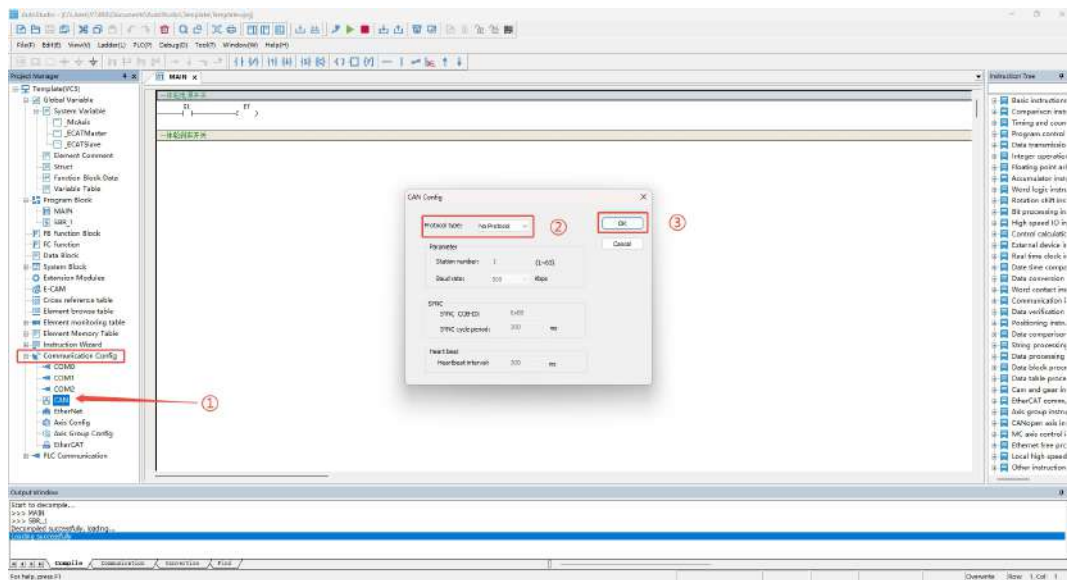

Figure 3-10 Configure CAN
Step 2: In the Project Manager on the left, locate the Communication Configuration tab. Double-click “CAN” to open the CAN configuration window. Set Protocol Type to “Master,” enter the correct baud rate and station ID, and then click OK, as shown in Figure 3-10.